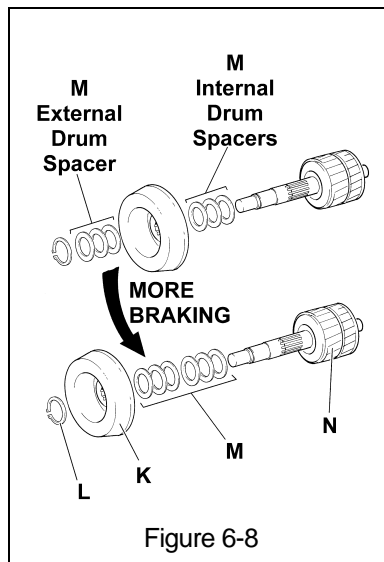

Figure 6-8
- 3) Remove the Snap Ring (L), external Drum Spacers (M), Brake Block (K), without removing the internal Drum Spacers (M) nearest the rotor. Transfer the necessary quantity of external Drum Spacers (M) to the Rotor (N) side of the brake block (K) to provide more braking (see Figure 6-8).